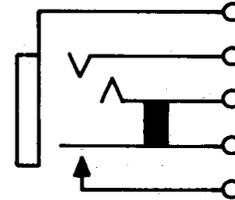

Fig. 2—408 Jack
2.02 408: This strip-mounted jack (Fig. 2) is used with the 309 plugs and a 145 jack mounting. This jack is furnished only on orders for jack mountings.